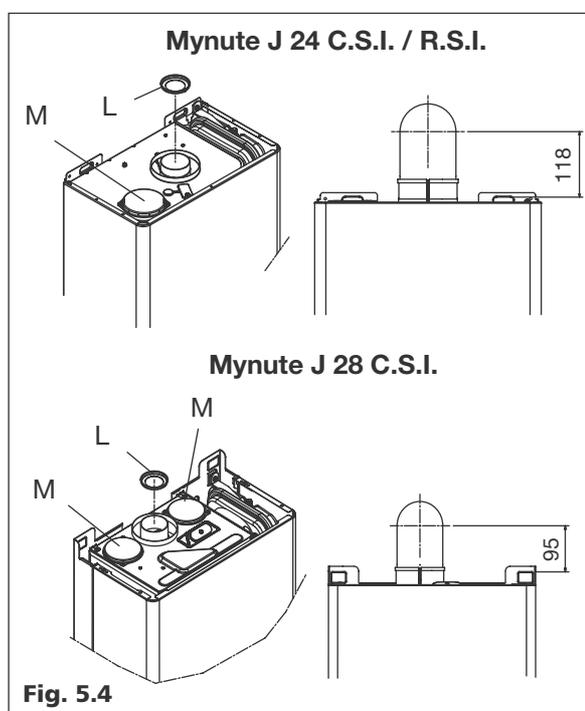

Fig. 5.4
**Scarichi coassiali Ø60-100 (Fig. 5.4)**